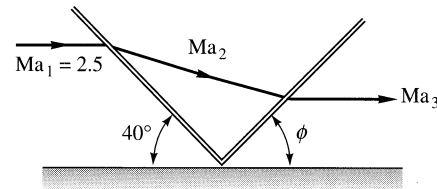

Fig. P9.134
**9.134** When an oblique shock strikes a solid wall, it reflects as a shock of sufficient strength to cause the exit flow  $Ma_3$  to be parallel to the wall, as in Fig. P9.134. For airflow with  $Ma_1 = 2.5$  and  $p_1 = 100$  kPa, compute  $Ma_3$ ,  $p_3$ , and the angle  $\phi$ .